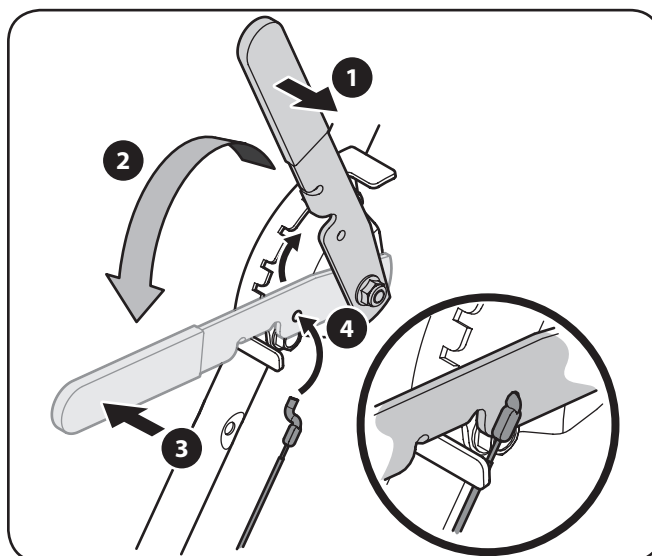

Figure 3-4
4. Hook the Z end of the depth control cable into the hole on the depth control lever as shown in Figure 3-4.